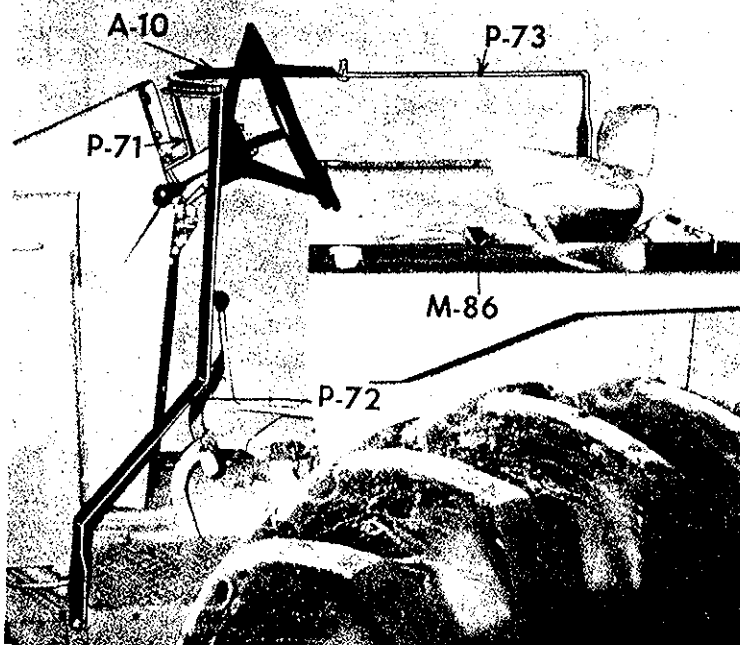

Figure 2
6. Insert P-72 door post into wide hem on left side and bolt top to A-10 using 1/4" x 1" hex head bolt and nut. See Figure 2.